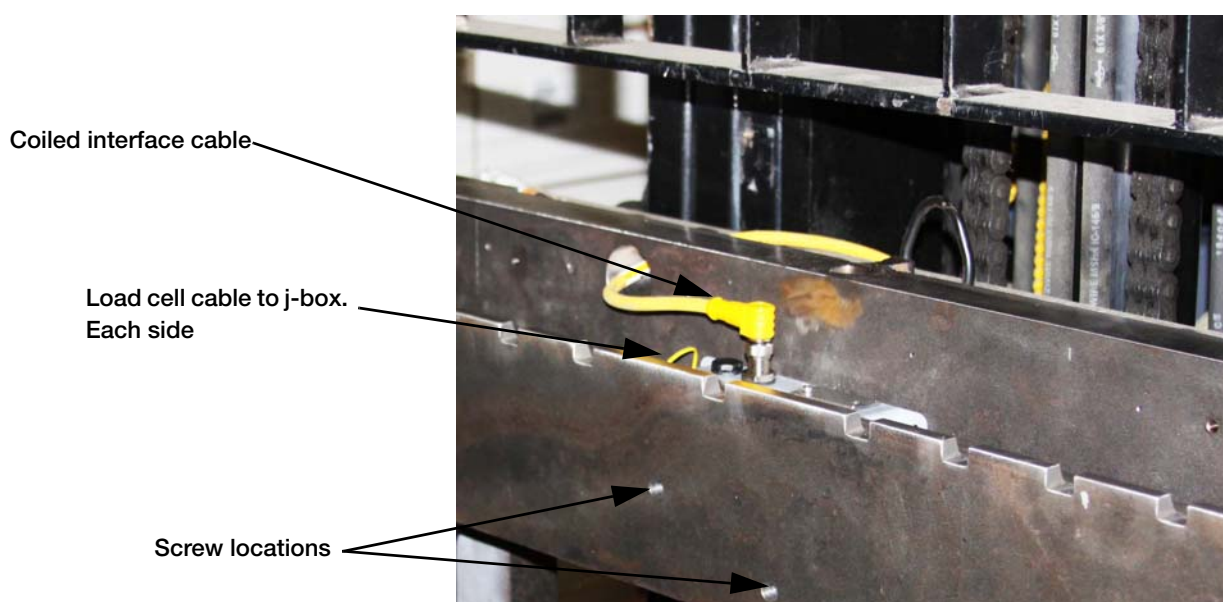

Figure 7-2. iQube2 J-Box Location Inside the Scale
6. Remove the two screws securing the j-box to the scale, using a #4 metric Allen wrench. See Figure 7-2 for screw location.